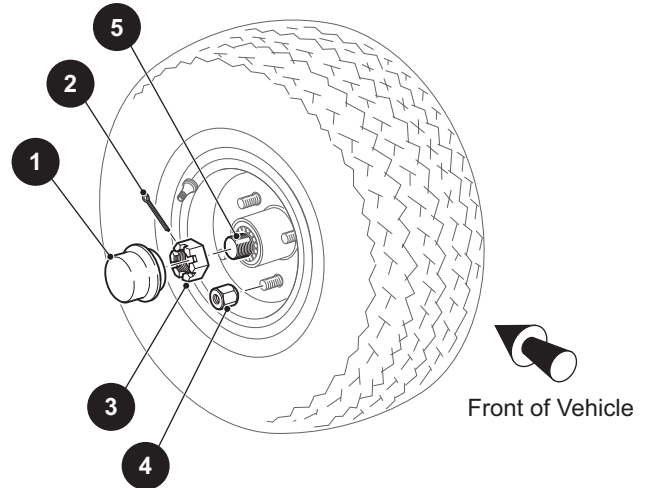

Figure 3 Bearing Adjustment
2. Remove dust cap (1) and cotter pin (2) and loosen castellated nut (3).
3. If performing a wheel bearing adjustment as part of another procedure, make sure the wheel is mounted to the hub hand tight with lug nuts (4) and hub is loosely retained on spindle (5) with castellated nut (Ref. Figure 3).
5. Rotate the wheel 2 - 3 more turns to displace excess grease. If required, tighten castellated nut (3) again until slight resistance is felt. If the cotter pin hole in the spindle (5) aligns with a slot in the castellated nut, insert a new cotter pin (2). If the hole does not align, the castellated nut must be **loosened** to align with the **closest available** slot in the nut.
6. Check for smooth and free rotation of the wheel and an absence of play when the wheel is grasped by the outside of the tire. Bend the cotter pin (2) against the flats of the castellated nut (3).
7. Replace the dust cap (1) and lower vehicle per SAFETY section.